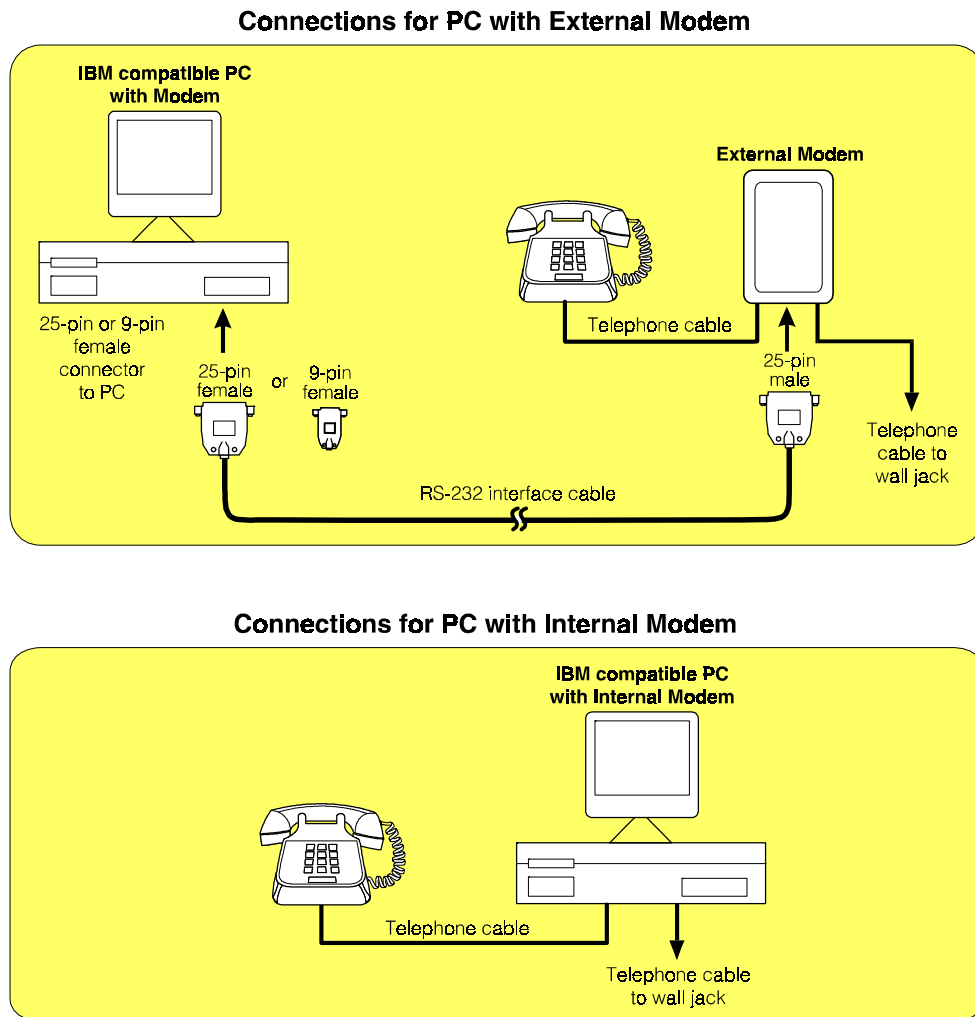

Figure 7. PC and external modem cable connections
If an external modem will be used, connect the cable directly from the computer to the modem as follows. Refer to the top part of Figure 7.
- ❗ Connect the standard telephone cables to the modem as shown in the top part of Figure 7.
If the computer has an internal modem, connect the standard telephone cables directly to the computer as shown in the bottom part of Figure 7.